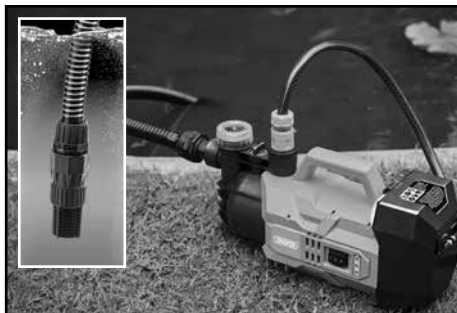

FIG.10
- The inlet of the suction hose should always be submerged into the water in order to avoid dry-running of the pump when the liquid level falls (Fig.10).
- Start the pump by pressing the ON/OFF/pump speed selection rocker switch (7).